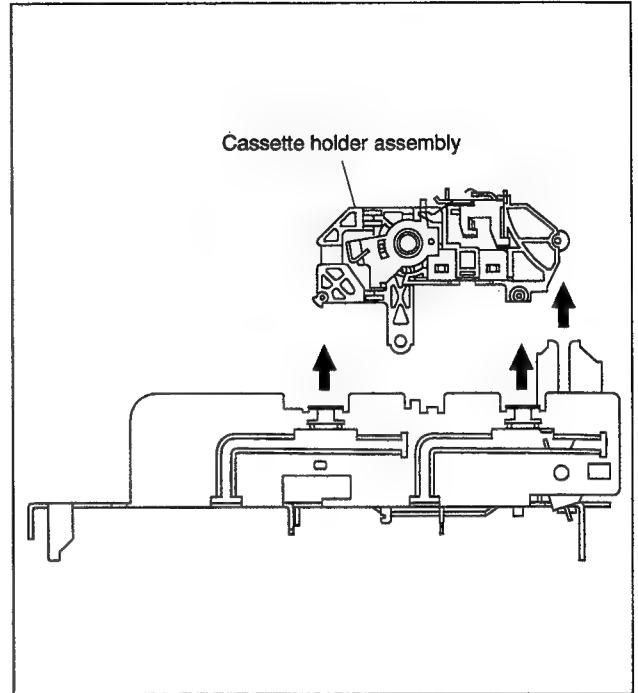
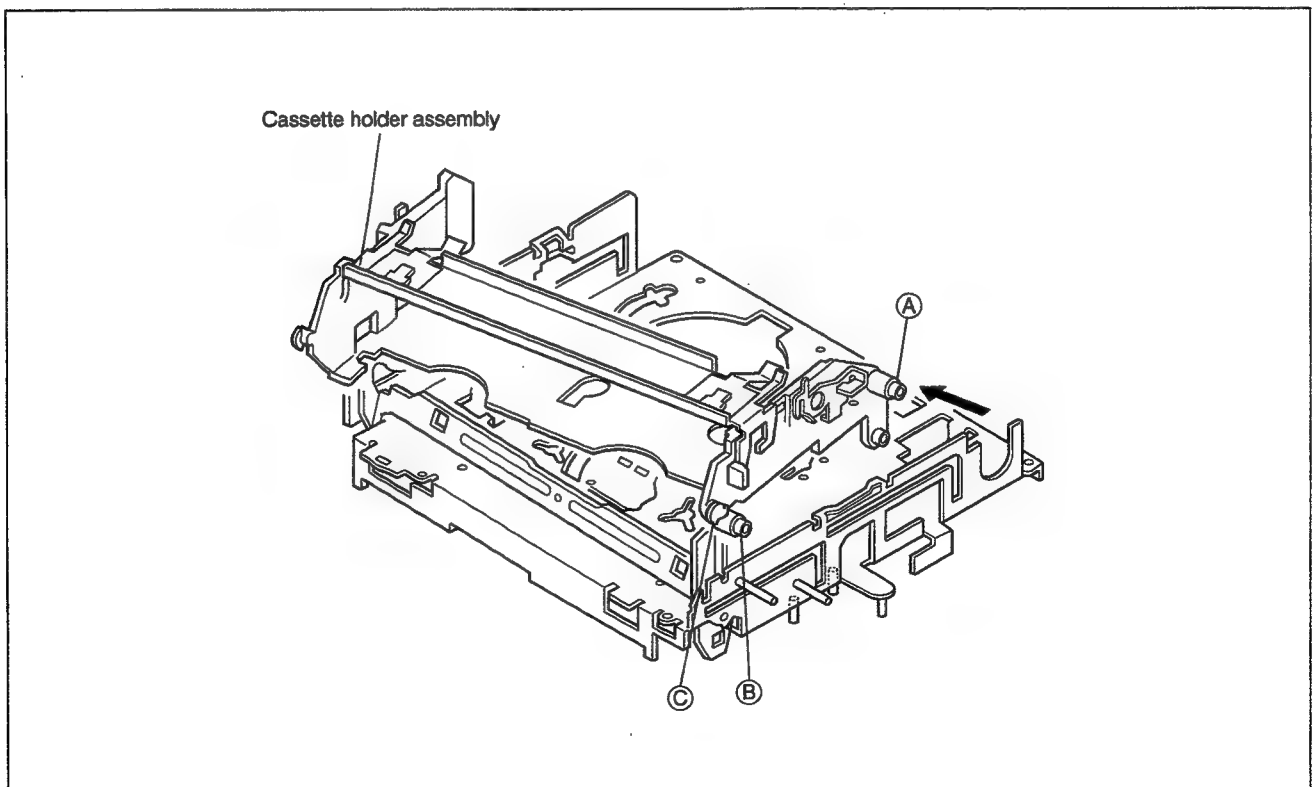

Fig. 2-2-5
Fig. 2-2-6
(5) While holding the left side of the cassette holder, lift the cassette holder assembly so that the three legs on the left side are all released. Then pull the legs (A) and (B) on the right side out of the rail and also pull up the leg (C). (See Fig.2-2-5, Fig.2-2-6)